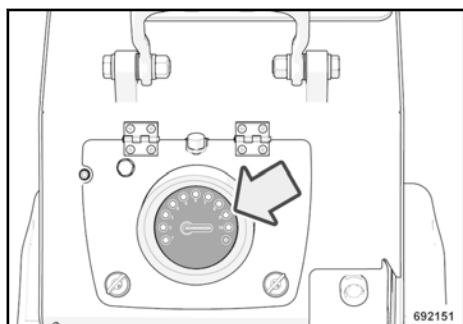

Fig. 12
- the evaluation and display module is integrated in the maintenance flap (within the operator's view → Fig. 12). It shows the measuring value measured by the compaction control.